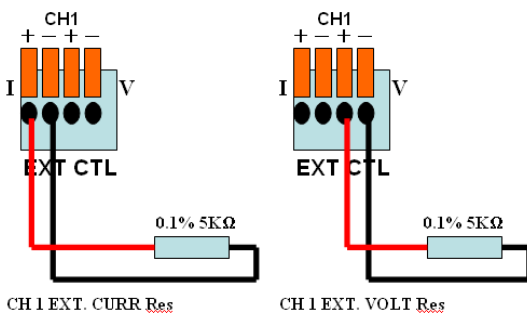

Figure 39- Channel 1 Setup for External Analog Resistor Input Calibration
9. (Dual channel) For the external voltage calibration, connect the leads like Figure 39 shown below.